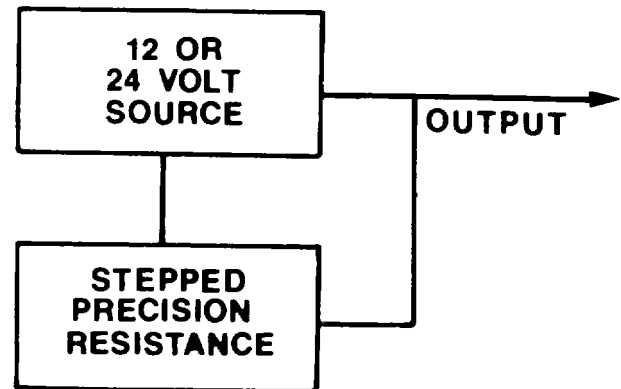

Figure 1-3. Resistance Thermometer Section Flow Diagram
c. Either 12 or 24 volts is selected as an output from the source as shown in Figure 1-3 by the positioning of the **RESISTANCE AND VOLTAGE FUNCTION SWITCH**. The precise values shown on the **VOLTMETER** dial are obtained by utilizing the **COARSE AND FINE RHEOSTATS**, which provide compensation for varying conditions of the 45 volt battery source. Stepped precision resistance values are selected for output by setting the **TEMPERATURE SELECTOR SWITCH** pointer to a particular temperature indicated on the dial, while matching the bulb resistance to that of the resistance thermometer under test.